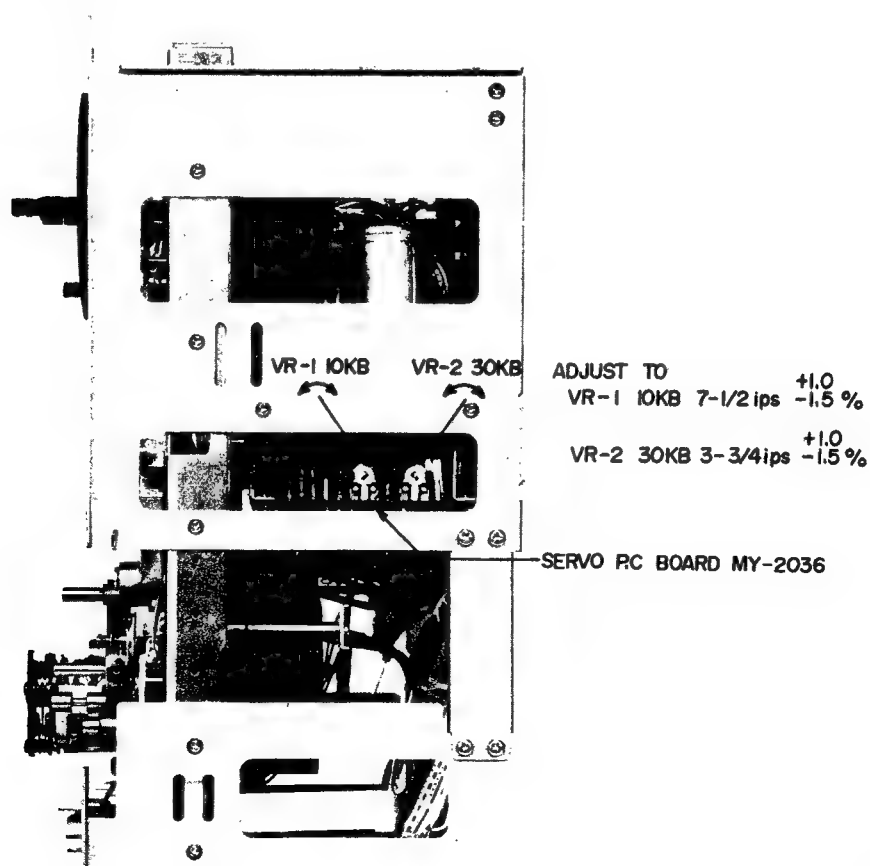

Fig. 12
2. TAPE SPEED ADJUSTMENT (Refer to Fig. 12)